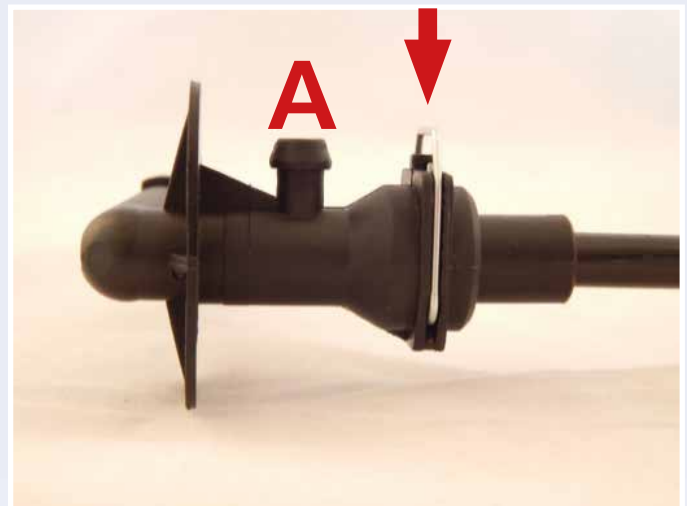

Figure 1
1. First, top up the clutch fluid reservoir with new clutch fluid and then connect a transparent hose to the air bleeder (A) of the bleeding connector which is part of the clutch concentric slave cylinder.
2. Press the retaining clip down into the bleeding connector and hold in position; this is to partially release the clutch tube. (Figure 1)